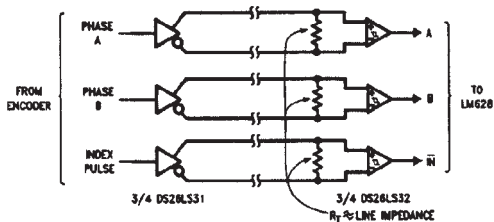

FIGURE 18. Typical Balanced-Line Encoder Input Circuit
Simple digital "filtering" schemes merely reduce susceptibility to noise (there will always be noise pulses longer than the filter can eliminate). Further, any noise filtering scheme reduces decoder bandwidth. In the LM628 it was decided (since simple filtering does not eliminate the noise problem) to not include a noise filter in favor of offering maximum possible decoder bandwidth. Attempting to drive encoder signals too long a distance with simple TTL lines can also be a source of "noise" in the form of signal degradation (poor risetime and/or ringing). This can also cause a system to lose positional integrity. Probably the most effective countermeasure to noise induction can be had by using balanced-line drivers and receivers on the encoder inputs. Figure 18 shows circuitry using the DS26LS31 and DS26LS32.
- Figure 18. Scaling for k_p and k_d